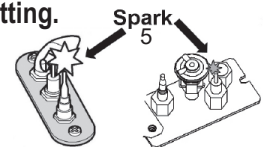

Fig 3
2. **SET ON/OFF SWITCH (1) TO "OFF" POSITION.**
- Wait five (5) minutes to clear out any gas, then smell for gas, including near the floor. If you smell gas, **STOP!** Follow "B" in the safety information above on this label. If you don't smell gas, go to the next step.
3. **AUTOMATIC IGNITION (fig. 1):** Locate the pilot (fig. 3.) inside of firebox.
- ON/OFF switch (1) in ON position, MAN-knob (2) in ON position; set Flame Adjustment knob (3) to lowest setting (U).
- When the pilot is lit, the Flame Adjustment knob (3) will automatically rotate to the highest setting.
4. **MANUAL IGNITION (fig. 2):** With the window off, locate pilot (fig. 3) inside firebox;
- ON/OFF switch (1) in ON position, MAN-knob (2) in MAN position;
- Set Flame Adjustment knob (3) to the lowest setting (U);
- Push down the metallic core (4) with a pen or similar instrument; this will establish the pilot gas flow; Light gas at the pilot (5) with a match;
- Continue holding down metal core (4) for about 10 seconds; after release, pilot should remain lit;
- If the pilot will not stay lit after several tries, turn the gas control knob (3) to "OFF" (U) and call your local service technician or gas supplier.
- Reinstall the window and set the MAN-knob (2) to "ON"; turn Flame Adjustment knob (3) up (U) or down manually or use the up/down 'flame' buttons on the remote control handset to adjust the flame height.